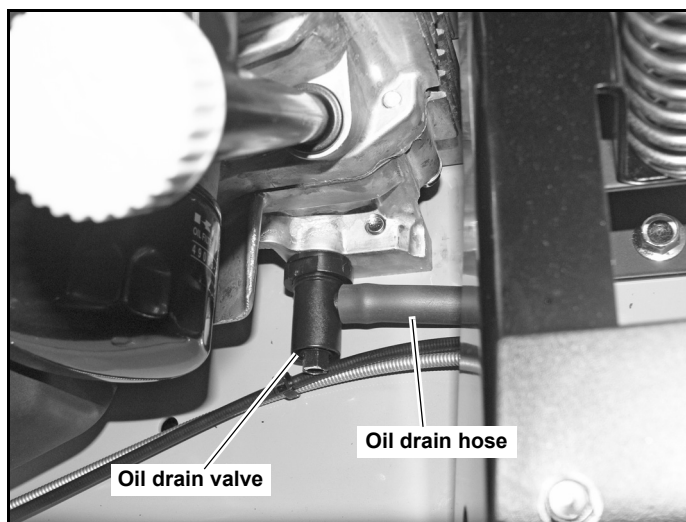

Figure 4-5
2. Locate the oil drain hose that was supplied with the machine. Be sure to clean and clear it of debris that might block the flow of the engine oil. Figure 4-5
8. Clean the oil drain hose and store it appropriately. Figure 4-5